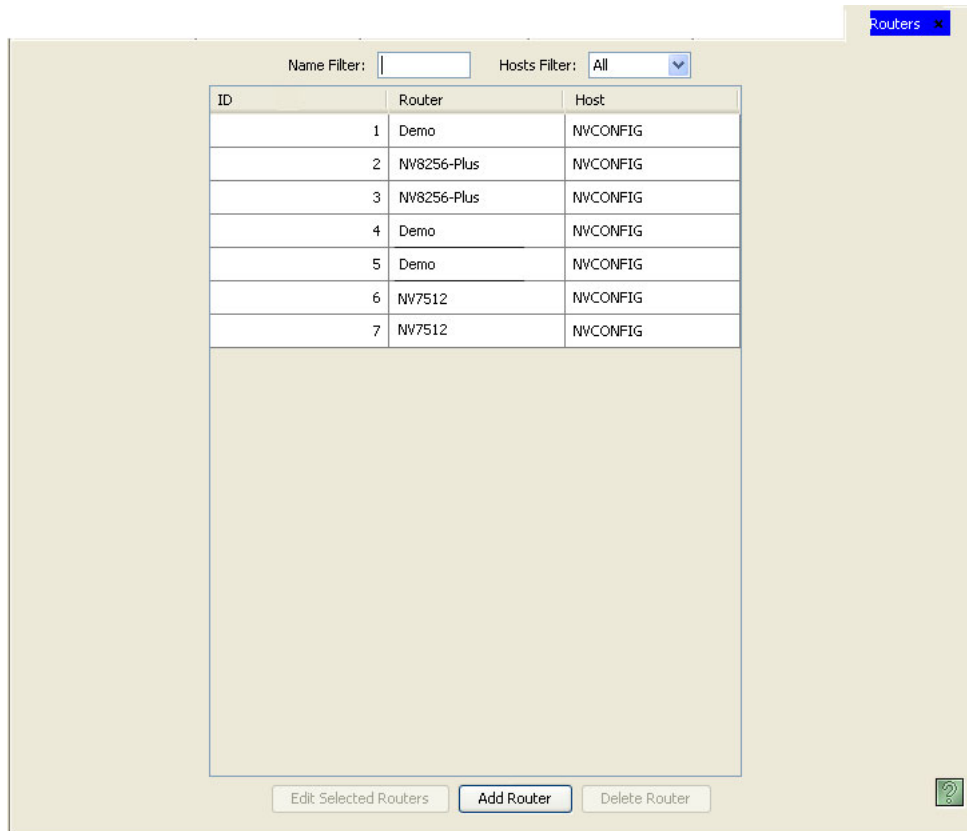

Figure 7-27. Routers Page
- 2 From the Navigation area, select the 'Configuration' pane and then 'Routers'. The 'Routers' page displays, as shown in Figure 7-27.